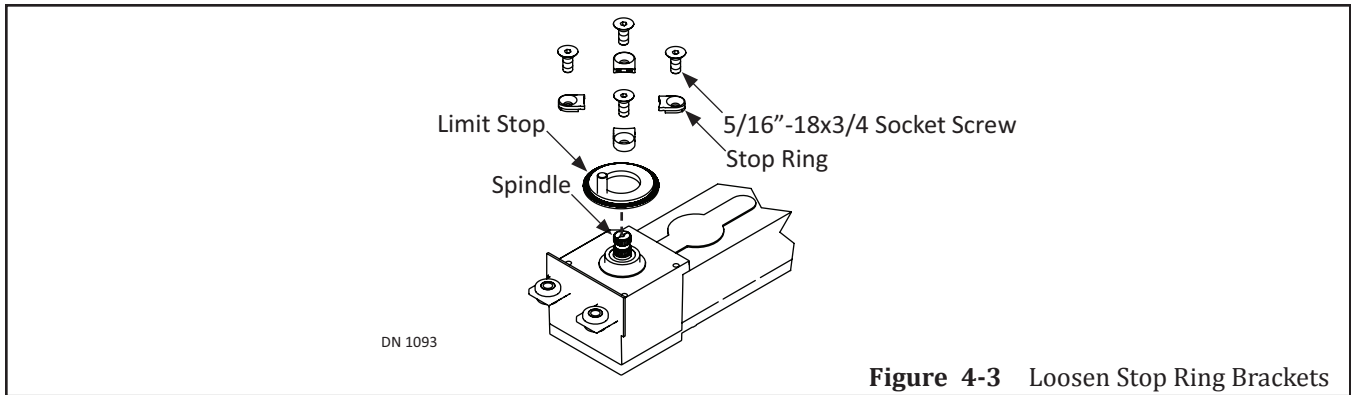

Figure 4-3 Loosen Stop Ring Brackets
1. Place the Motor/Operator on a flat surface with the underside facing up. Please see Figure 4-3.
4. Secure (4) Ring Stops onto the Limit Stop with 5/16-18 Socket Head screws.